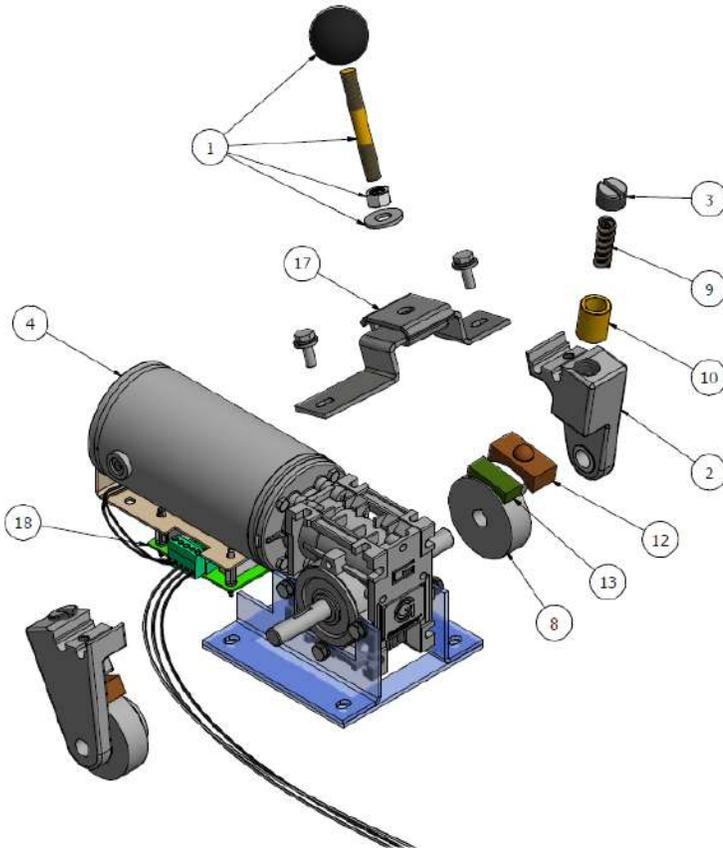

Figure 39 - Gear Motor Assembly
The operating mechanism pictured in Figure 39 - Gear Motor Assembly (page 51), is used in single motor operated, and dual motor operated transfer switches. The motor (4) is a universal type, reversible motor and is shipped as a complete component including the gearbox and motor control board. The gearbox is a sealed unit, which should never require maintenance or attention. Because of the wide range of molded case switches used on Lake Shore Electric Transfer Switches, if motor replacement is necessary, please specify the serial number and model number of the transfer switch.